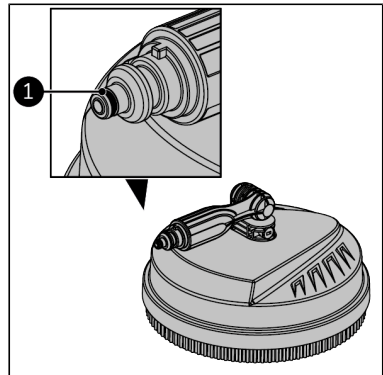

Figure 37.
4. Apply Vaseline to the O-ring of the floor cleaner (Figure 37, pos. 1).